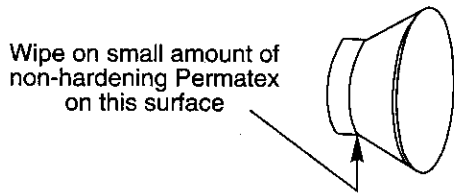

Figure 15
- B. Place a small amount of No. 2 non-hardening Permatex on surface of insert as shown. Smooth out with finger. See Figure 15.